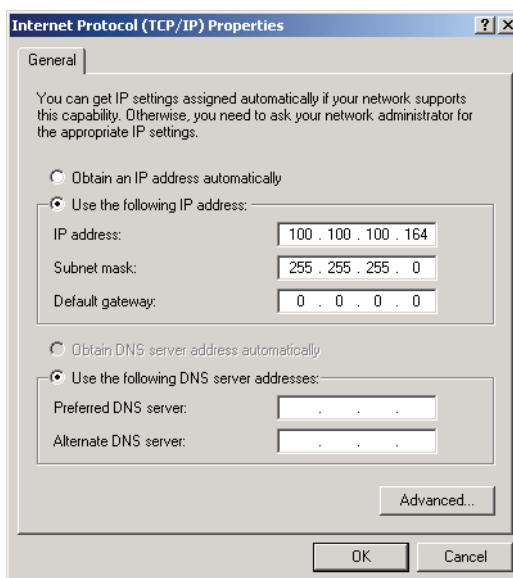

Figure 14.2. TCP/IP Properties dialog box using static addresses
4. Under the General tab, click the entry for **Internet Protocol (TCP/IP)** and click the **Properties** button. The TCP/IP Properties dialog box appears (see Figure 14.2).
- Under the General tab, click the entry for **Internet Protocol (TCP/IP)** and click the **Properties** button. The TCP/IP Properties dialog box appears (see Figure 14.2).